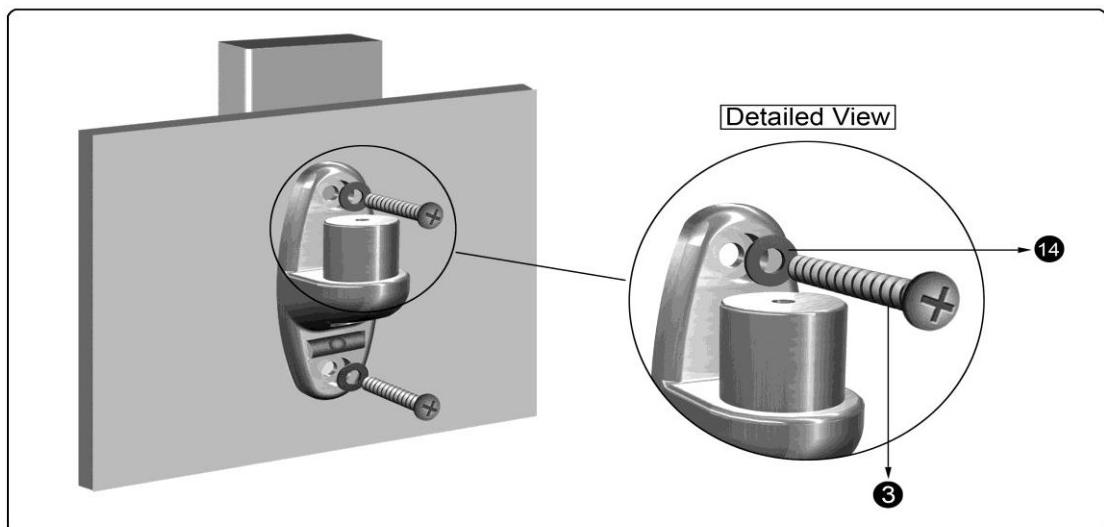

Figure 1-4
4. Insert Philips Screw ST6.3x65mm (3) through Washer (14), Wall Plate (2) and finally into pilot hole. Repeat for remaining Philips Screws. Tighten Philips Screw securely (See Figure 1-4).